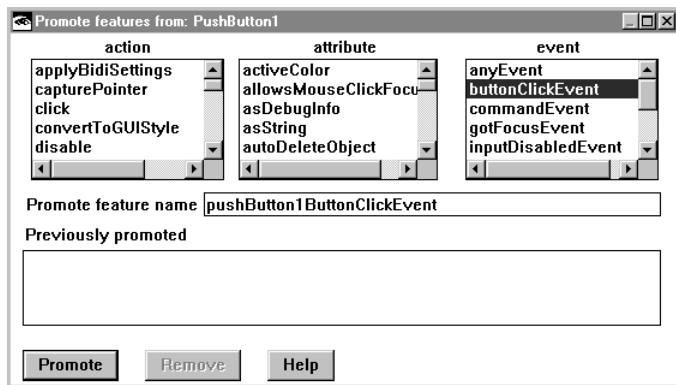

Figure 60. Part Name Prefixed to Feature Name for Promotion
6. Select a feature. The name of the feature you selected is displayed in the **Promote feature name** entry field prefixed with the name of the part. This is done so that when you make the connection, you can tell which push button part the feature belongs to. For example, if you selected the *buttonClickEvent* feature for the PushButton2 part, the feature name displayed in the entry field would be *pushButton2ButtonClickEvent*, as shown in Figure 60. This is how the feature name will appear in the connections menu unless you change it before performing the next step.